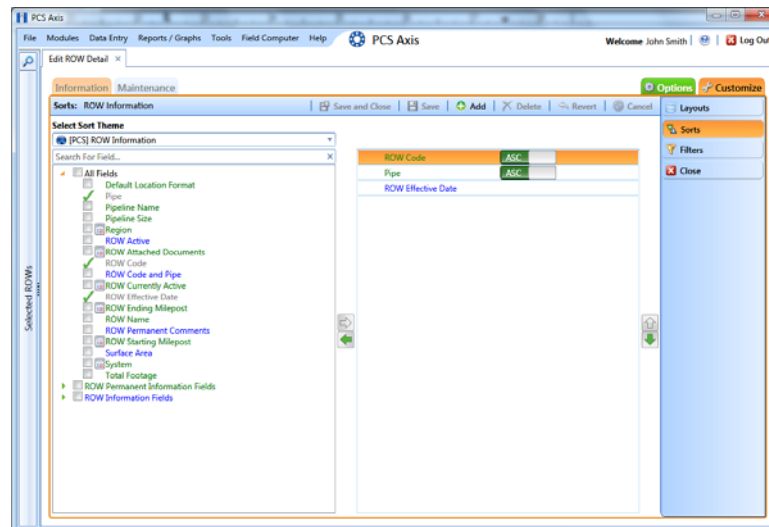

Figure 3-24. Sorts
- 4 Click the **Customize** tab  then the **Sorts** button  to open the *Sorts* page (Figure 3-24).